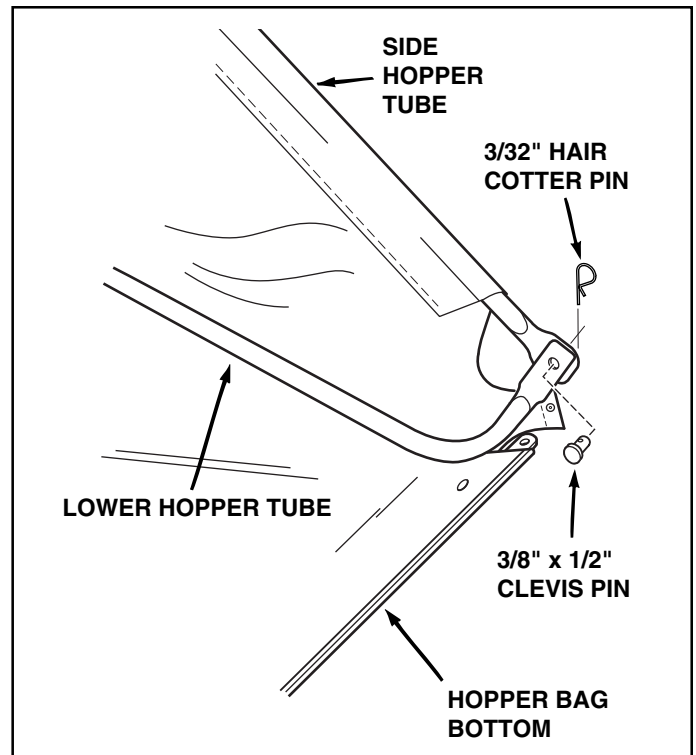

FIGURE 11
5. Place the assembled lower hopper tubes into the bottom of the hopper bag as. See figure 11.
6. Attach the ends of the lower hopper tubes to the **inside** of the side hopper tubes using two $3/8"$ x $1/2"$ clevis pins inserted from the inside, and two $3/32"$ hair cotter pins. See figure 11.